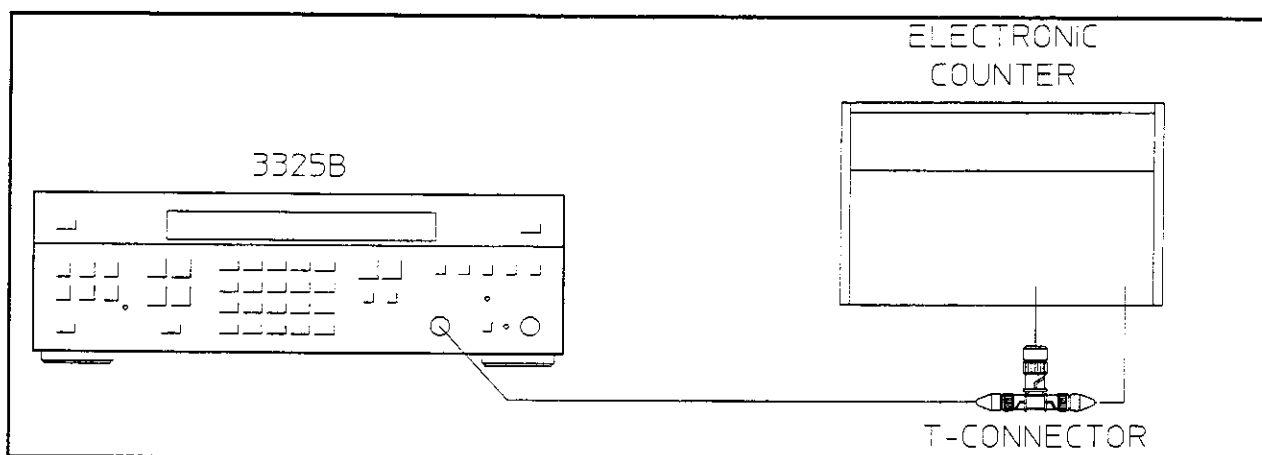

Figure 4-10. Square Wave Symmetry.
- a. Connect the HP 3325B signal output to both inputs of the electronic counter, using a BNC tee (see figure 4-10).